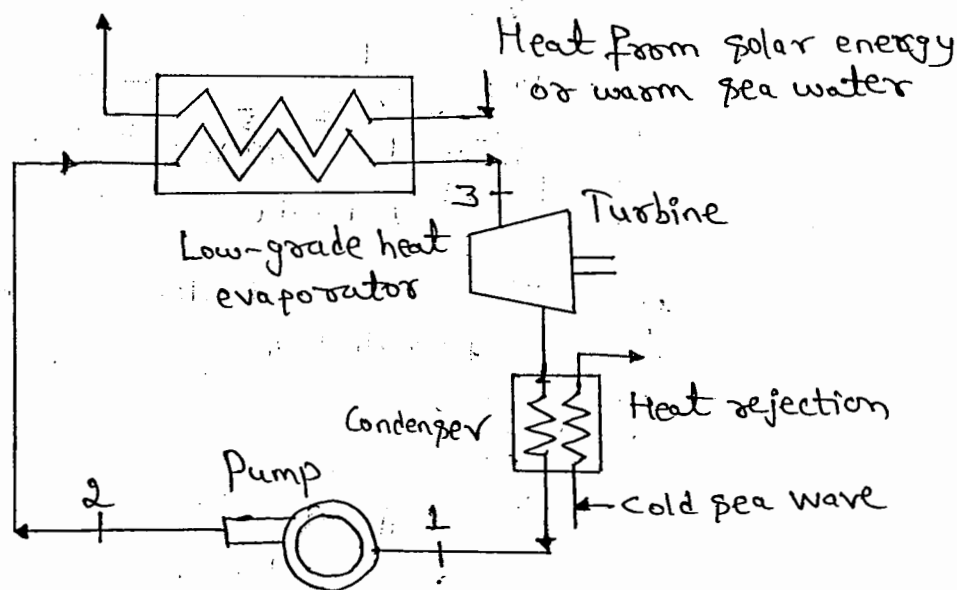

Figure 3. OTEC Rankine cycle
* The basic Rankine cycle shown in figure 3 consists of the following